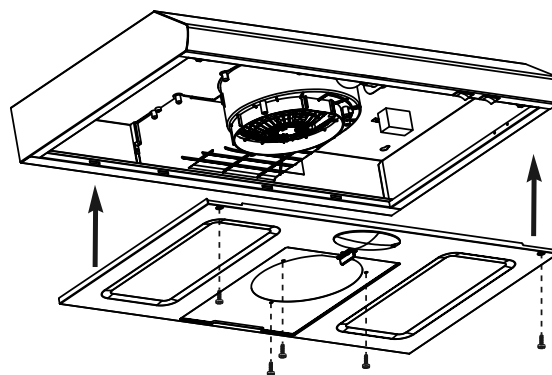

Fig. 16
- Lift the range hood (A) up under the cabinet to determine its final position. Mark the location of the four keyhole mounting slots (1) on the underside of the cabinet.
- Set the range hood (A) aside on a protective surface.
- Screw the four long tapping screws (AA) into the pilot holes. Do not tighten the screws all the way – leave the screw heads about 7 mm (0.28 in) from the cabinet surface.
- Lift the range hood (A) into position, feeding the power cable and the electrical wires through the power access opening. Allow some slack in the cable and wires so that the appliance can be moved if servicing is ever necessary.
- Position the range hood (A) so the large end (2) of the keyhole mounting slots (1) are over the screws (AA). Then push the range hood (A) toward the wall so the screws (AA) are in the neck (3) of the keyhole slots. Tighten the screws (AA). Ensure that the range hood (A) is securely fastened to the cabinet before releasing it.
- If applicable, connect the duct work to the range hood (A). Seal the joints with duct tape to ensure an airtight fit.
- Reinstall the bottom panel and filters as shown in Fig. 16.